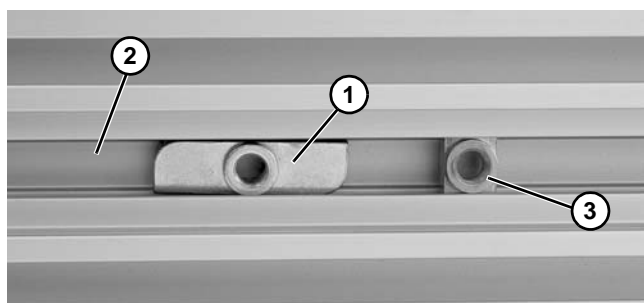

Figure 15
1. Insert twist nut (**Figure 15, item 1**) into conveyor center slot (**Figure 15, item 2**). Make sure the twist nut rotates into the "locked" position (**Figure 15, item 3**) while installing mounting brackets to the conveyor in the next step.